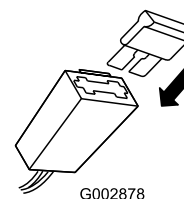

Figure 8
2. Insert the fuse into the fuse holder (Figure 8).